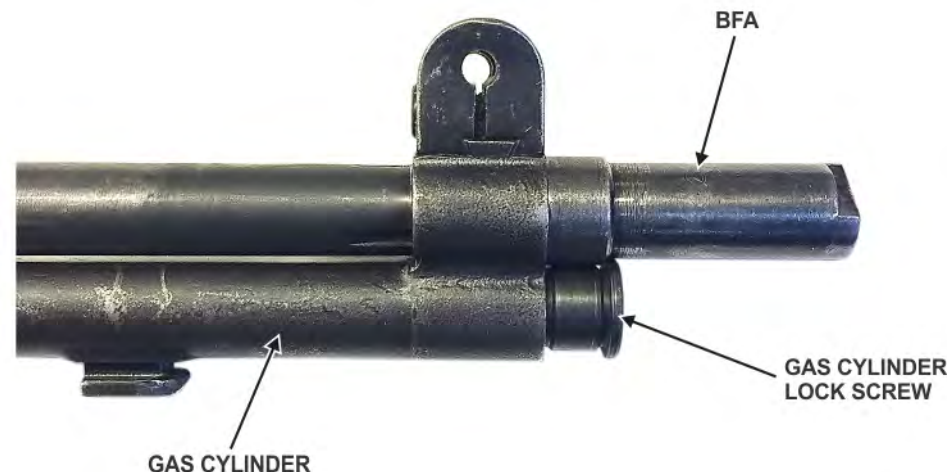

Figure 69: M1 Garand Rifle
1. While holding the M1 Garand Rifle, use a flat tip screw driver to unscrew and remove the **Gas Cylinder Lock Screw** from the **Gas Cylinder** (Figure 69).
7. Once the inspections are completed, serviceable rifles and BFAs should be reassembled. Attach the **BFA** onto the **M1 Garand Barrel** until the **BFA** touches the **Gas Cylinder** (Figure 69).